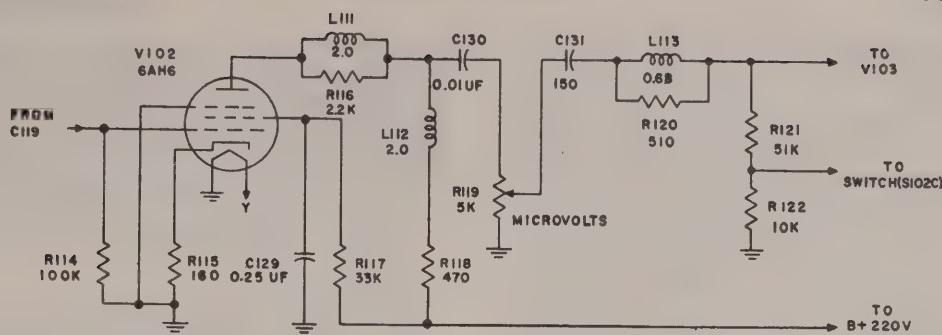

Figure 2-3. Simplified Schematic Diagram of the Buffer Stage
**c. BUFFER STAGE (See figure 2-3).**